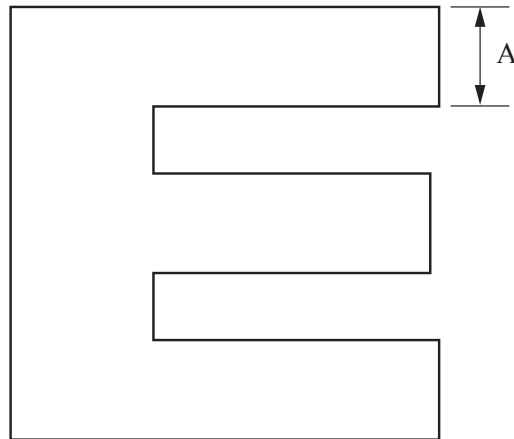

Fig. 1(b)
- (b) Figure 1(b) shows a staff extract.